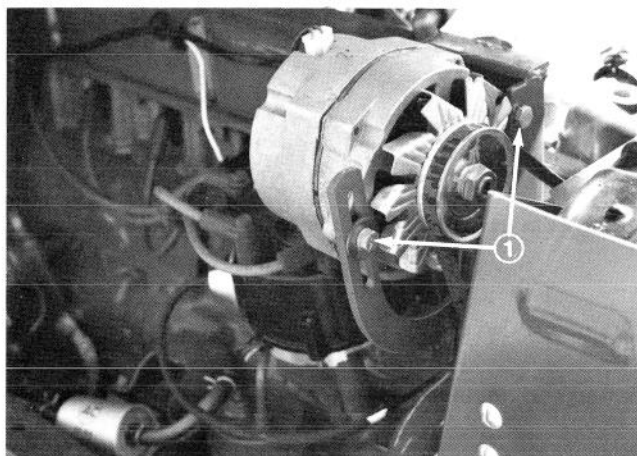

Figure 11
3. If belt deflection is inaccurate, loosen the alternator mounting bolts and rotate the alternator to attain the proper tension. (Fig. 11).